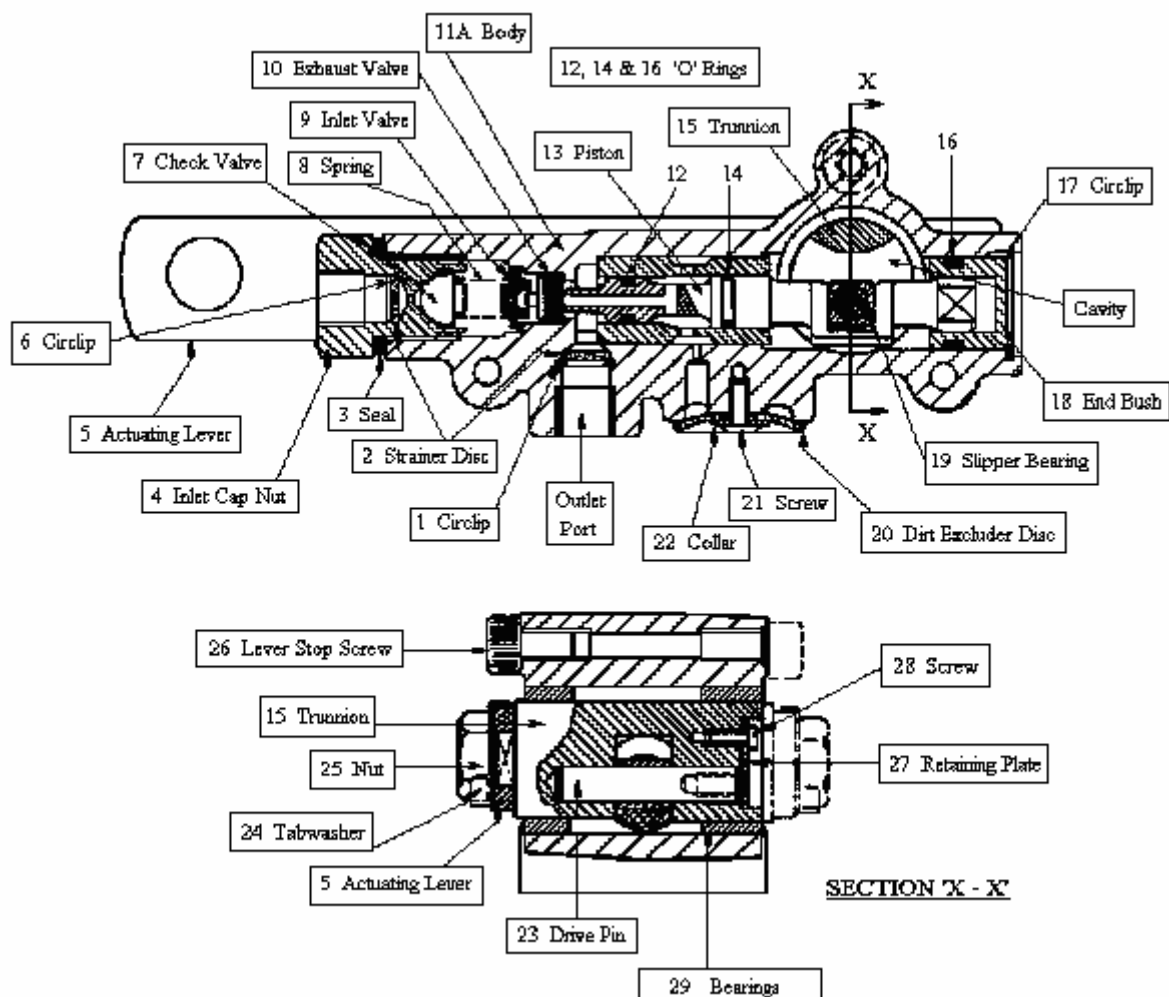

Figure 3: General Arrangement
1. Dismantle valve as follows: See Figure 3 on Page 3.